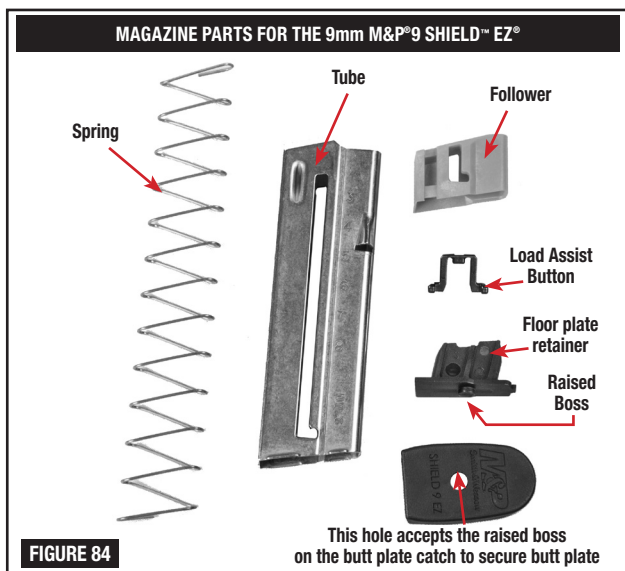

FIGURE 84
- (FIGURE 84) shows the magazine disassembled for cleaning.